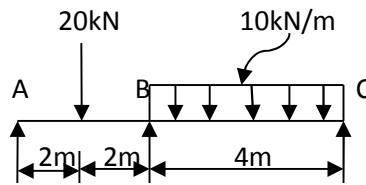

Fig.4
6. Analyse the beam shown in fig.4 below using flexibility method. $E=\text{Constant}$